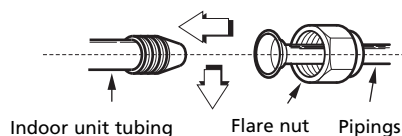
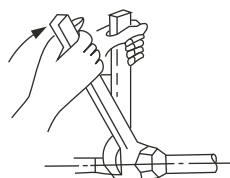

Fig. 18
Fig. 19
- Sufficiently tighten the flare nut with fingers, and then tighten it with a spanner and torque wrench as shown (see fig. 18 and fig. 19).